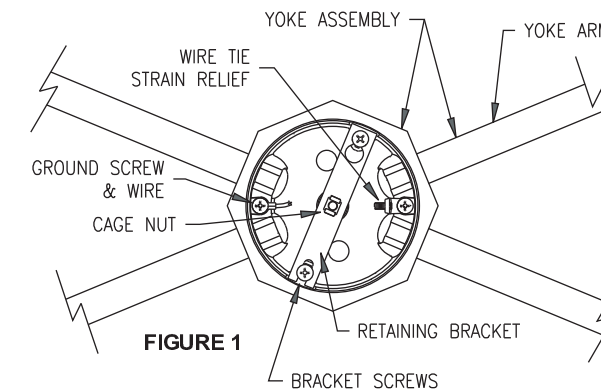

FIGURE 1
8. Attach luminaire to top of pole as shown in Figure 1. Be certain not to pinch wiring between yoke assembly and pole top.